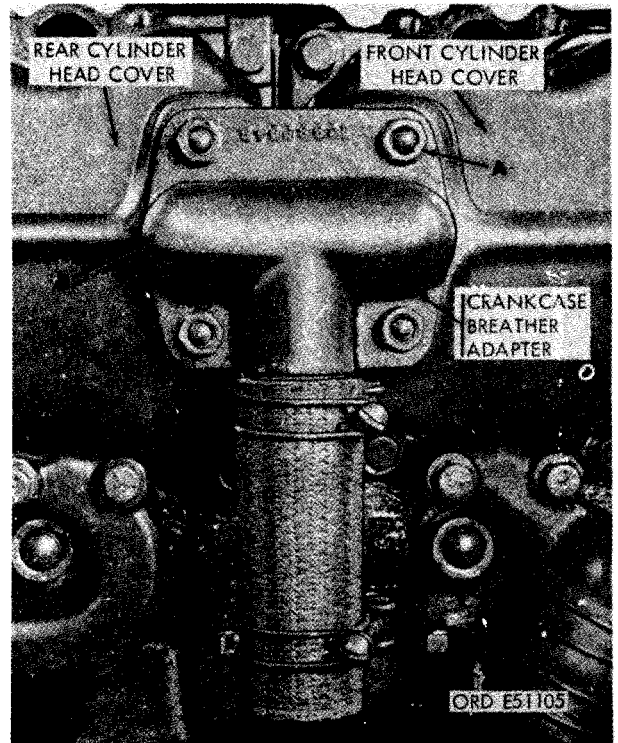

FIGURE 263. REMOVING CRANKCASE BREATHER ADAPTER.
- (1) Figure 263. (A) Remove four 5/16-inch plain nuts and 5/16-inch lock washers securing crankcase breather adapter to front and rear cylinder head covers. (B) Remove crankcase breather adapter with hose and clamps.